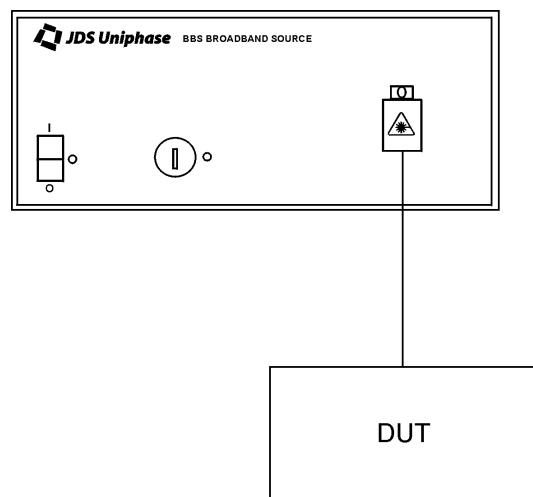

Figure 6: Setup
1. Ensure that the unit is turned off (O) and that the key switch on the front panel is set to the Inactive position.
3. Connect the DUT to the Output connector on the front panel via a suitable connectorized optical fiber (Figure 6). Ensure that all connectors are mated to like connectors.